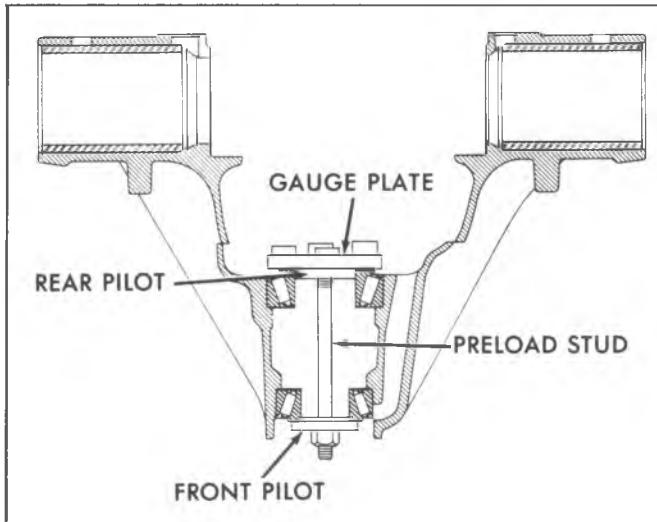

Fig. 4B-19--Gauge Plate Installed
3. Position gauge plate J-21777-29 on preload stud J-21777-43 (8-1/2" and 8-3/4" ring gear) J-23597-11 on preload stud J-21777-43 (7-1/2" ring gear), insert stud through rear bearing and pilot J-21777-35 (8-1/2" and 8-3/4" ring gear) J-23597-12 (7-1/2" ring gear) and through front bearing and pilot J-21777-42. Insert the hex nut until snug and rotate the bearings to make sure they are properly seated. See figure 4B-19 for illustration of proper positioning.